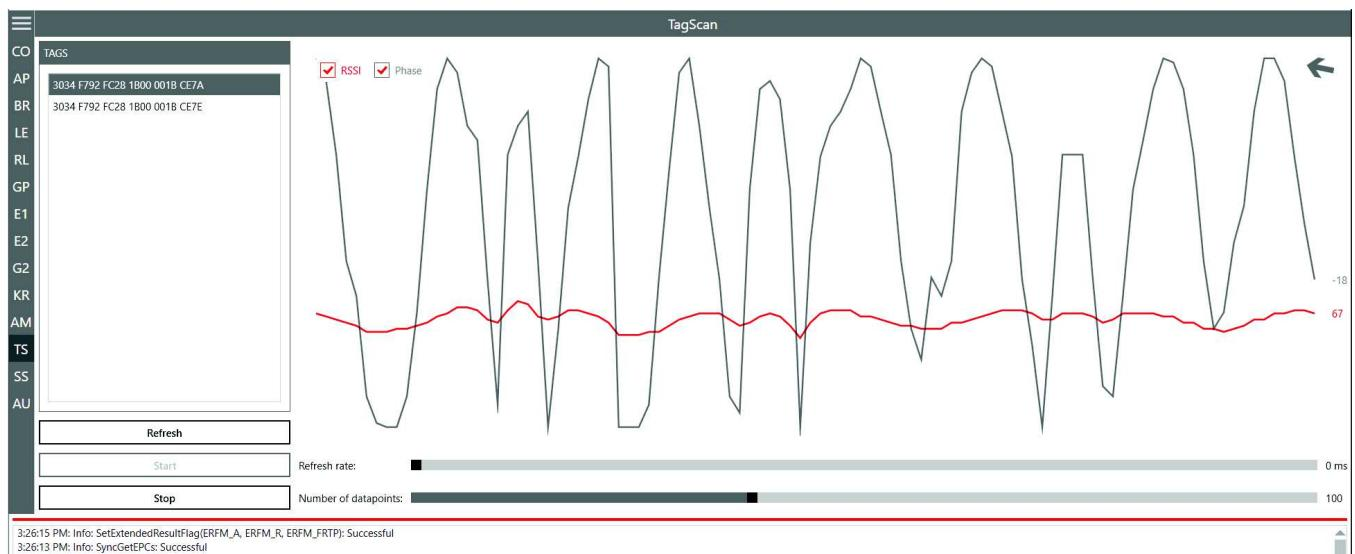

Fig. 78: TagScan: phase shift, transponder is moved
①	ETSI	selects the frequency area
②	Antenna 1–n	selects an antenna from the drop-down menu
③	Start	starts SpectralScan
④	Stop	stops SpectralScan
⑤	Reset maxima	resets maxima
If there is more than one reader, spectral scan shows which channels might be occupied by other readers. In Fig. 78, p. 113, the channels 4, 10 and 13 are occupied by other readers. If the user is not satisfied with the reading results and the interferences keep occurring, it is possible to deactivate channels on which the interference occurs (4, 10 and 13) and only activate the channel that is free (7) to achieve better reading results, see ⑯ in Fig. 56, p. 94.